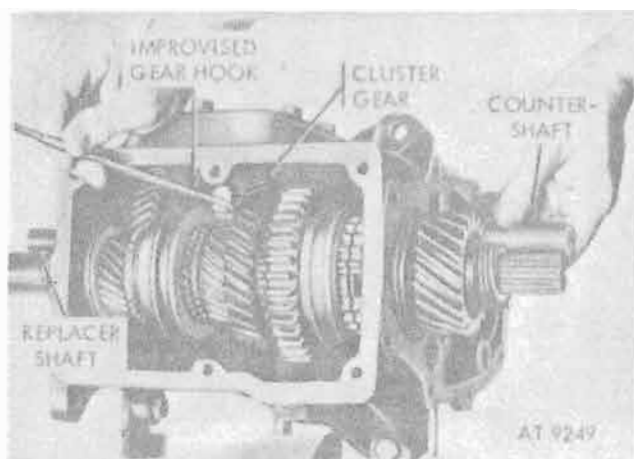

Figure 8-116. Raising cluster gear and installing countershaft.
j. Using improvised gear hook, raise the cluster gear to a position where the gear bore aligns with the case bores. Push countershaft into position which in turn will force shaft (7345226) from case (fig. 8-116).